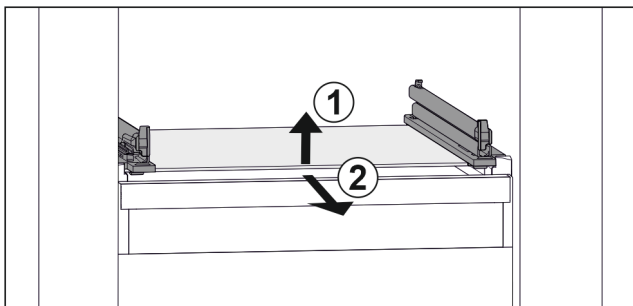

Fig. 52 Example illustration of glass shelf
- ▶ Lift glass shelf at the front. Fig. 52 (1)
- ▶ Take out glass shelf to the front. Fig. 52 (2)